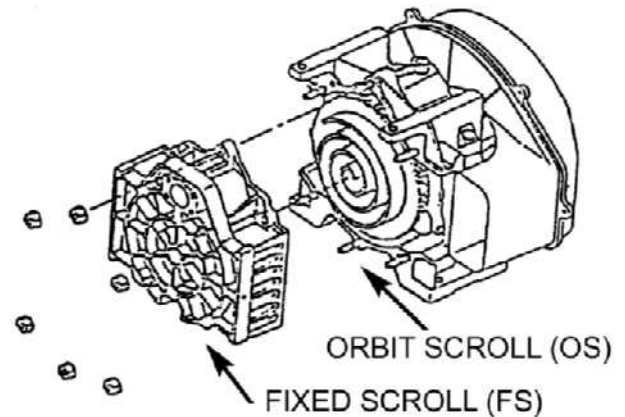

Figure 2. Removing the Fixed Scroll.
- Remove the six (6) nuts securing the fixed scroll to the housing. Remove the fixed scroll. Refer to Figure 2.